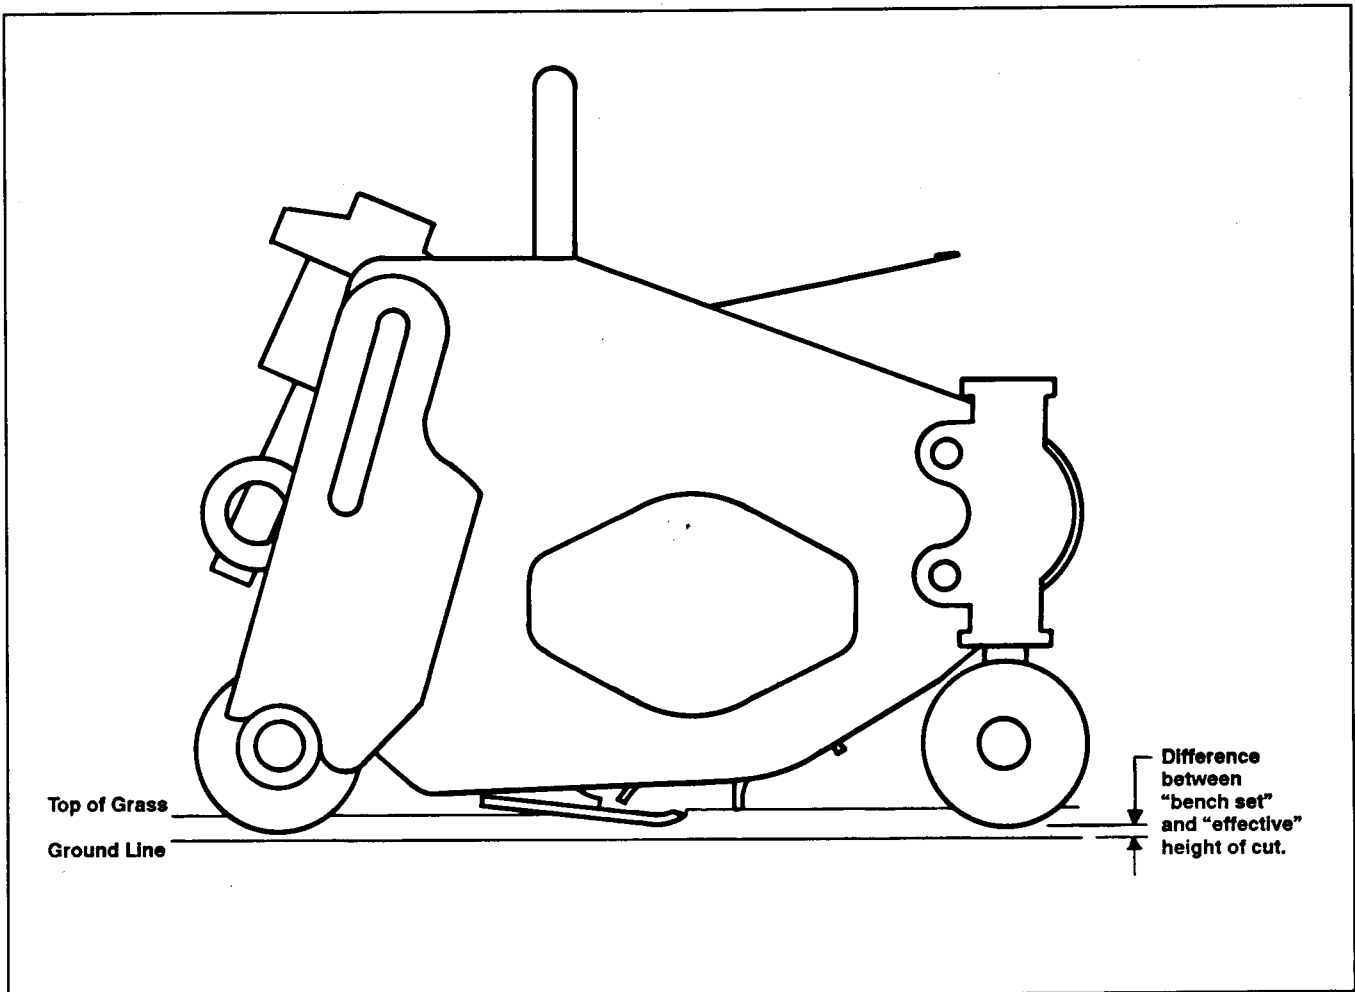

Figure 14
Height of cut, as measured in the turf and on the cutting unit is different. The grass prevents the cutting unit from settling all the way to the ground line as the machine moves across the turf. Because of this, the actual (effective) height of cut is higher than the height of cut setting on the cutting unit (bench set height of cut) (Fig. 14).
4. Place bar across front and rear rollers and adjust height of cut knob until underside of screw head engages bedknife cutting edge (Fig. 14). Check and adjust on each end of bedknife, then tighten height of cut adjustment locknuts on each end.